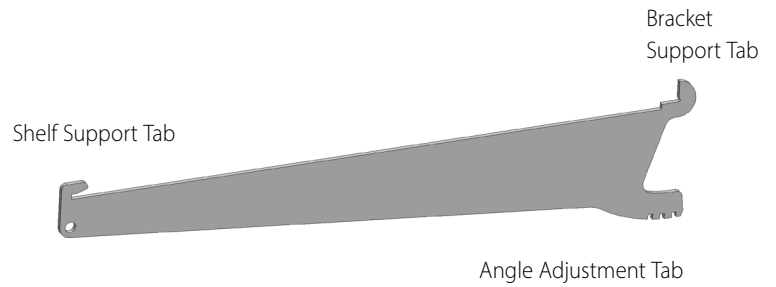

Fig. 11. Shelf support bracket tab identification.
1. Locate the shelf support brackets. See fig. 11.